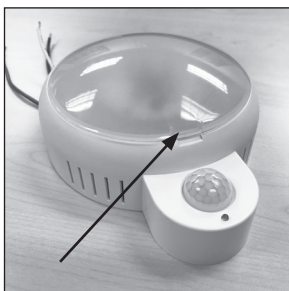

Figure 1A: Removing the Frosted Lens Diffuser from the Luminaire
1. This installation requires the luminaire's mounting base plate be connected directly to the junction box (See Figure 1A). To separate the mounting base plate, place a flat blade tool at an angle under the center of the Frosted Lens Diffuser (next to the Occupancy Sensor), then rotate the flat blade counterclockwise to remove the Frosted Lens Diffuser. Set the Frosted Lens Diffuser aside.